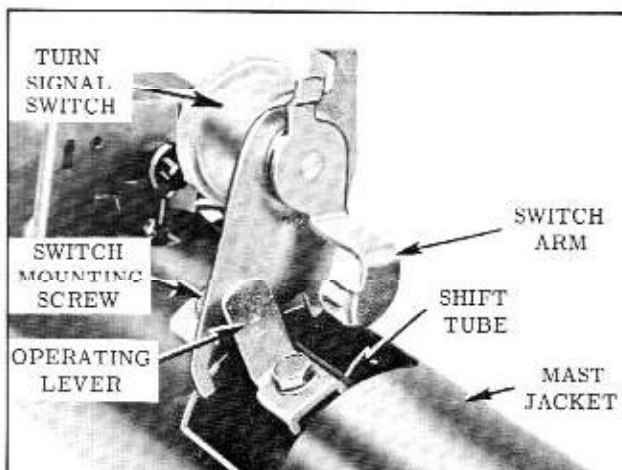

Fig. 13-97 Back Up Lamp Switch (Neutral)
4. Move shift lever to neutral. Switch arm should be against stop and back-up lamps should be off. (Fig. 13-97)